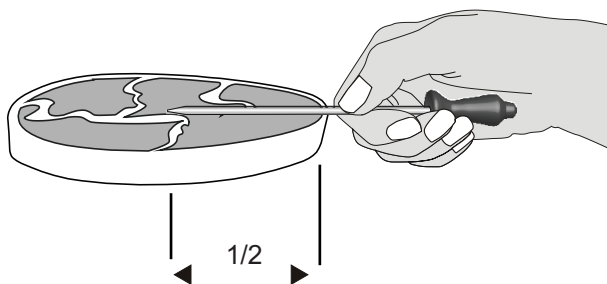

**Figure 37: Probe receptacle insertion**
The probe receptacle is located at the top of the oven cavity as shown in Figure 37.
Handle the meat probe carefully when inserting and removing from food or probe receptacle. Do not use kitchen utensils, such as tongs, to pull on meat probe cable when inserting or removing from food or receptacle. Use the provided handle, as shown in Figure 37. To avoid possibility of burns after cooking, carefully unplug meat probe using a pot holder to protect hands.
2. Plug the meat probe into the probe receptacle located on the top of the oven cavity (Figure 37).